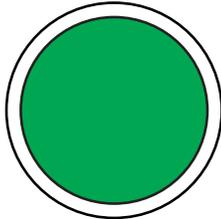

Figure 54. Circuit Breaker ON Button (ON/GREEN)
2. **On the first generator**, press the **Circuit Breaker ON button** (Figure 54).
3. **On the second generator**, press the **Circuit Breaker ON button** (Figure 54). The voltage and frequency will be automatically adjusted. The circuit breaker will turn **ON** automatically when synchronization is complete.